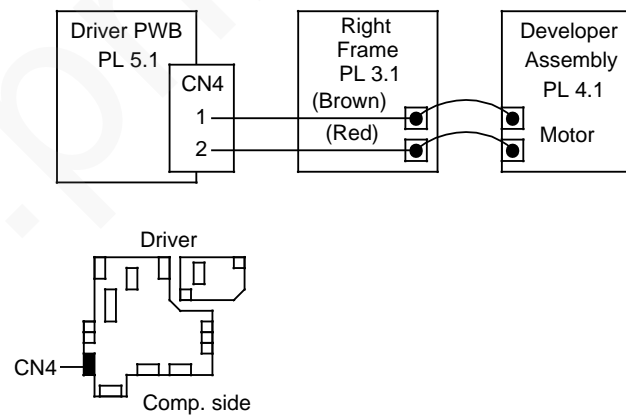

Figure 2. Developer Drive
13. Check the motor drive signals. (Figure 2) Measure the driver PWB, CN4, pins 1 and 2 to ground.